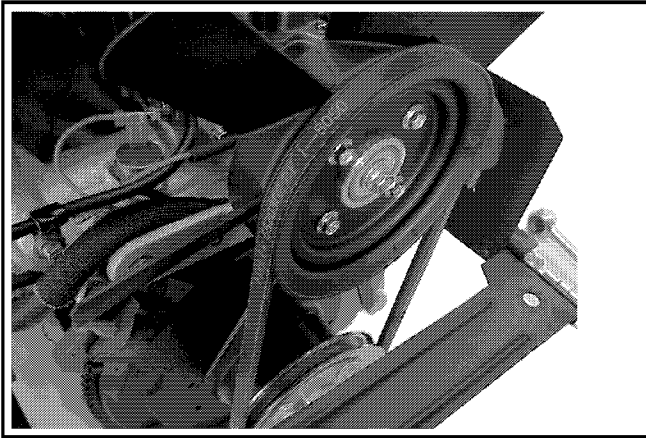

Figure 19. Pulley and Drive Belt.
3. The v-groove of each pulley (upper and lower) should not be bent, nicked, or damaged. Pulley mounting areas and lower pulley shims should be free of any cracks or elongation. See Figure 19.